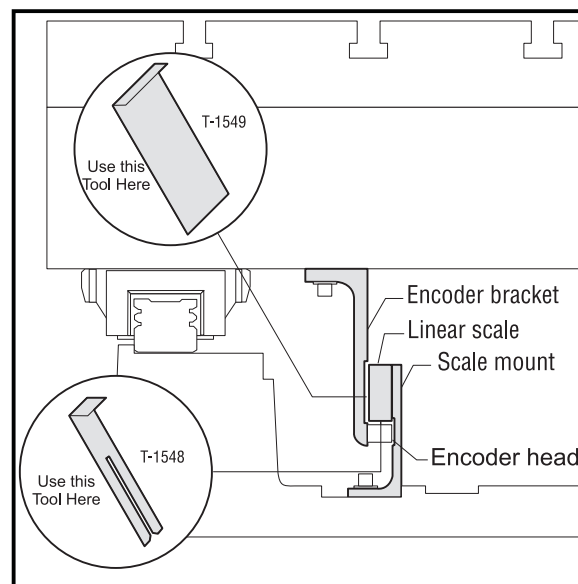

Figure 1-4. Linear scale alignment check tools.
4. If problems persist, check for correct gaps at each end of travel by inserting tools T-1548 and T-1549 into their respective gaps, as shown in Figure 1-4. These tools must fit without having to force them. If the tool can be moved more than 0.003", the fit is too loose.